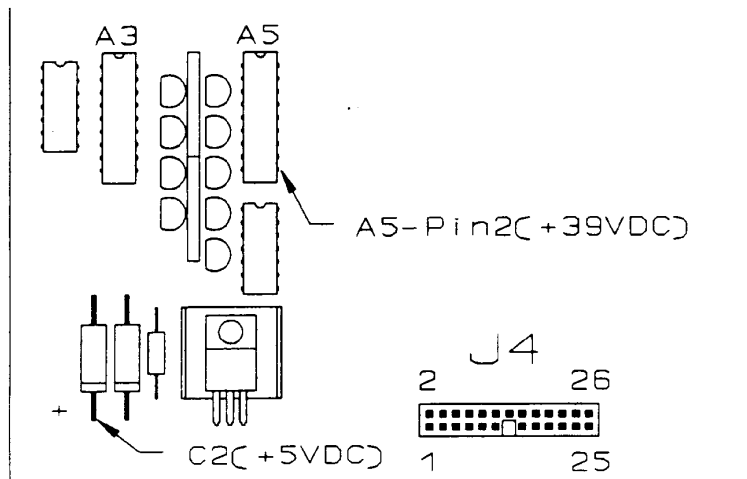

Figure 7-2: Main PCB Display Voltage Checks
- 4 - **+5 VDC:** Regulated display logic supply, (plus side of capacitor C2, Figure 7-2).